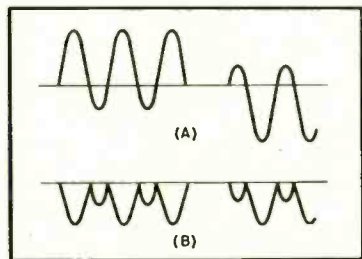

Figure 3
its output feeds another voltage divider. The audio signal appearing at the rectifier input may resemble (A) in Fig. 3, which is what the low-level triodes receive. The output of the full-wave rectifier, however, contains both negative and positive peaks, all on the same (negative) side of the baseline, as at